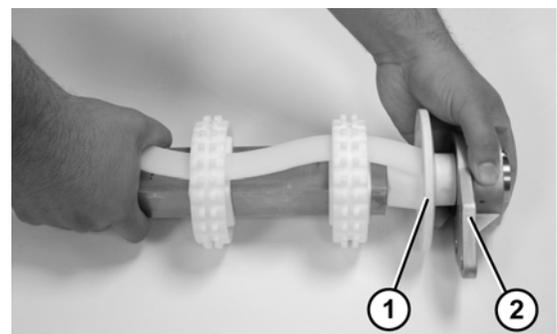

Figure 70
- Attach the flanged pucks (Figure 70, item 1) and the 3 hole flange with bearing (Figure 70, item 2) to the drive spindle.